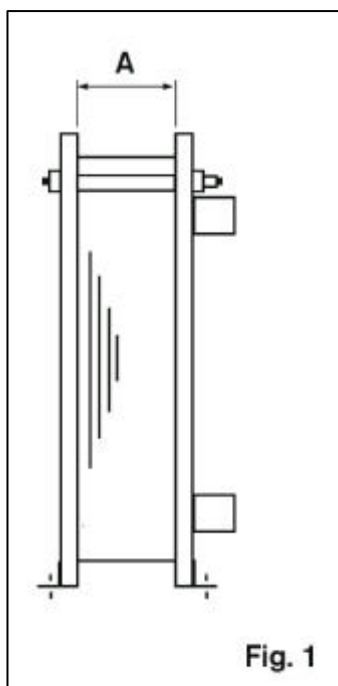

Fig. 1
If after a period of time, the plate pack is found to be leaking, the plates can be tightened further. It is essential that we are informed, and advice shall be given regarding the 'A' minimum dimension. (See Fig. 1) The guide bars at the top and bottom of the plate heat exchanger and the threaded plate pack clamping bolts should be kept clean and lightly greased. It is occasionally necessary to strip down the plate heat exchanger for inspection and cleaning.
10. The plate pack is re-tightened by tightening the clamping bolts. Care should be taken to ensure that these clamps are tightened as uniformly as possible, i.e. the frame plates will be parallel as possible when tightening. Avoid end plate skewing greater than 10mm. These clamps should be tightened until the correct 'A' dimension is achieved. (See Fig. 1 for details)